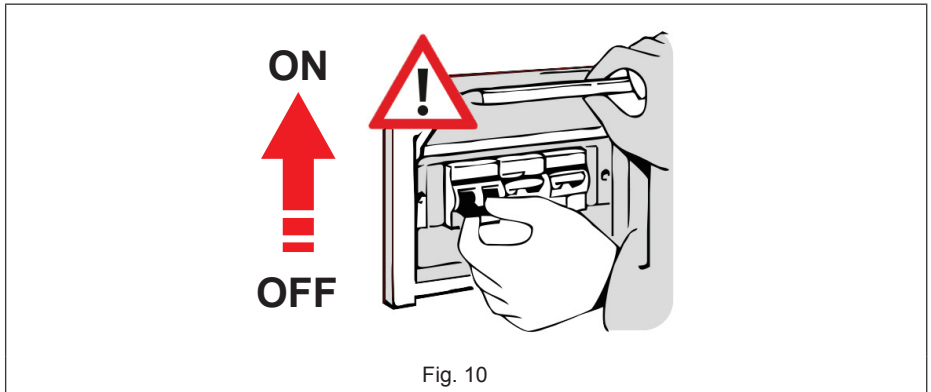

Fig. 10
- If present, set the protection magnetothermal switch located upstream of the power socket to the “ON” position (Fig. 10).